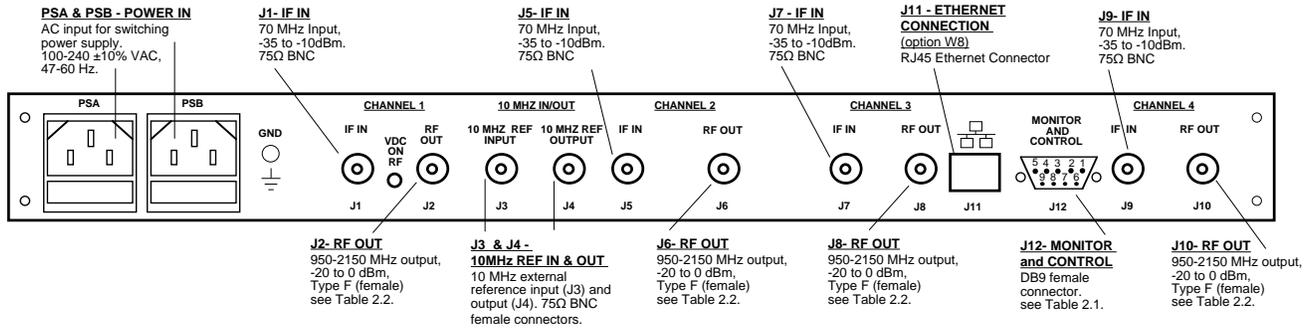

FIGURE 2.2 2415-x02 Rear Panel I/Os
Figure 2.2 shows the input and output connectors on the rear panel.
1. Connect a -35 dBm to -10 dBm signal to IF IN, for the designated channel (ie: J1, J5, J7, J9), (Figure 2.2).
2. Connect the RF OUT, for the designated channel (ie: J2, J6, J8, J10), to the external equipment, (Figure 2.2).